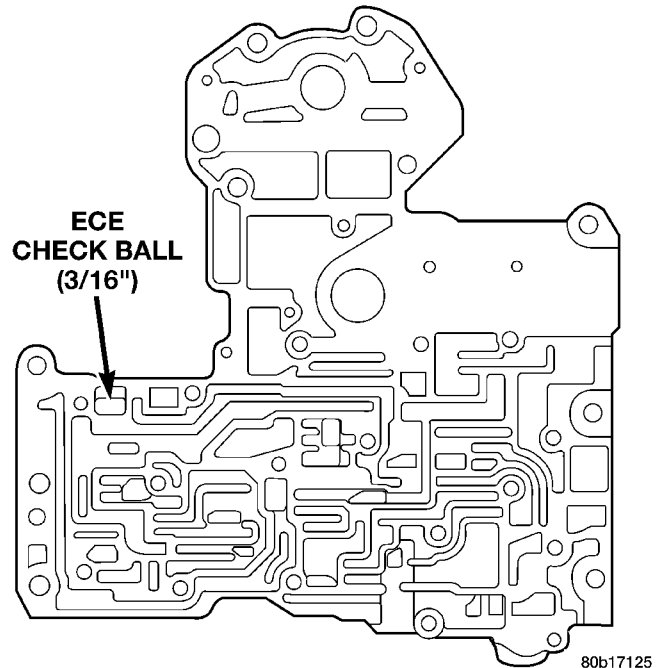

Fig. 66 ECE Check Ball
(32) Remove the ECE check ball from the transfer plate (Fig. 66). The ECE check ball is approximately 4.8 mm (3/16 in.) in diameter.
(3) Install the ECE check ball into the transfer plate (Fig. 66). The ECE check ball is approximately 4.8 mm (3/16 in.) in diameter.